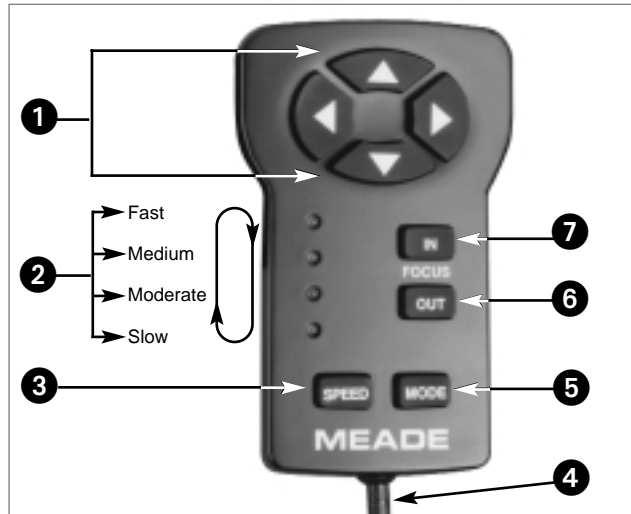

Fig. 43: Electronic Controller. (1) Arrow Keys; (2) Indicator Lights; (3) SPEED Key; (4) Coil Cord; (5) MODE Key; (6) OUT Key; (7) IN Key.
The following numbers refer to Fig. 43 above.
- 3 **SPEED Key:** Press SPEED to change the speed at which the telescope slews to an object. Each press of the SPEED key changes the slew speed to the next slower setting. If the controller is already on the slowest slew speed (light 4), pressing SPEED cycles back to the highest speed (light 1). Slew speeds are signified by the indicator lights (2, Fig. 43).